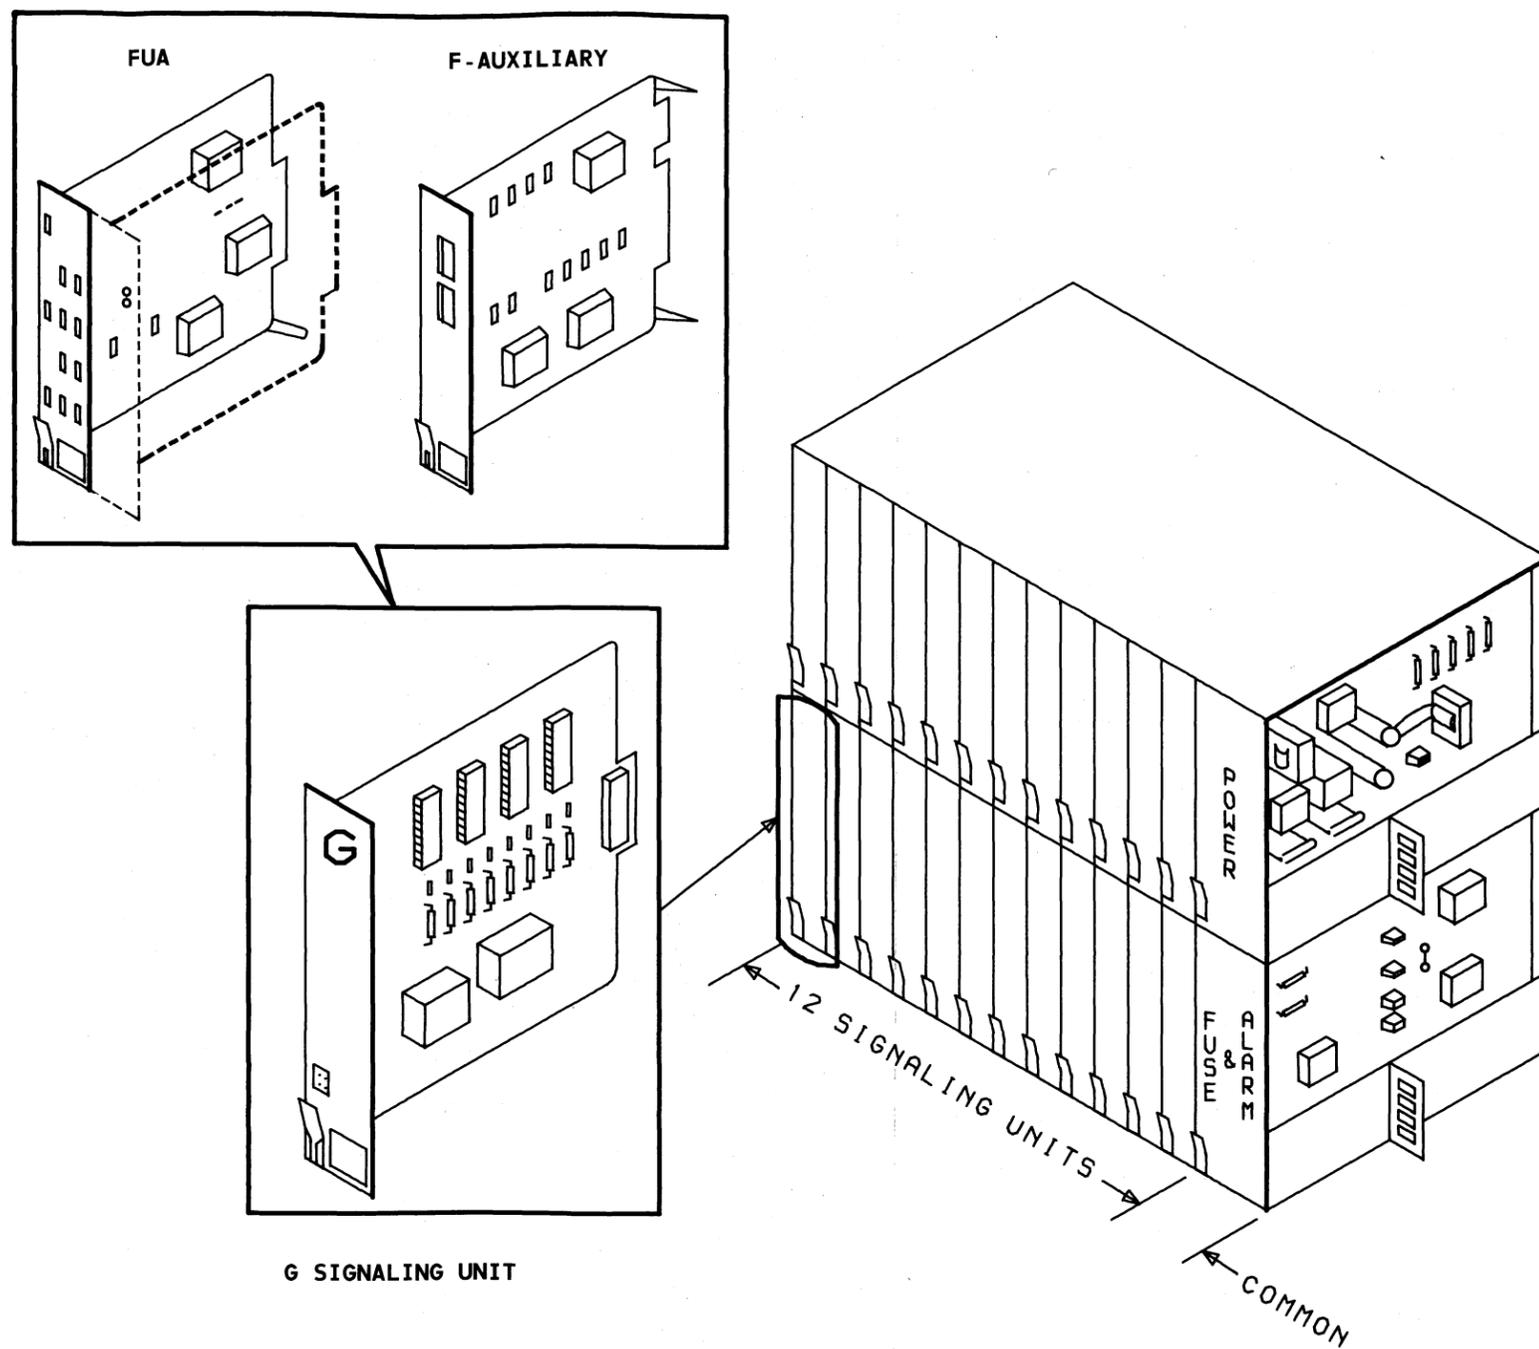

Fig. 2—G-Signaling 24-Unit Module
2.01 One G-signaling module has two shelves and contains 24 SF units, 1 power unit, and 1 GYA unit (see Fig. 2). On the top shelf of the module there are 12 SF units and the power unit and on the bottom shelf, there are 12 more SF units and the GYA unit. Each Type G SF unit is 1.5 inches wide, 7.3 inches high, and 10.3 inches long. One Type G SF unit contains all the interface functions for one circuit end. When the SF unit is inserted, the cutout in the bottom of the unit displays the shelf position assignment number (1 through 24) that is printed on the shelf. A designation card is provided on the framework to identify the circuit assigned to the shelf position and SF unit.